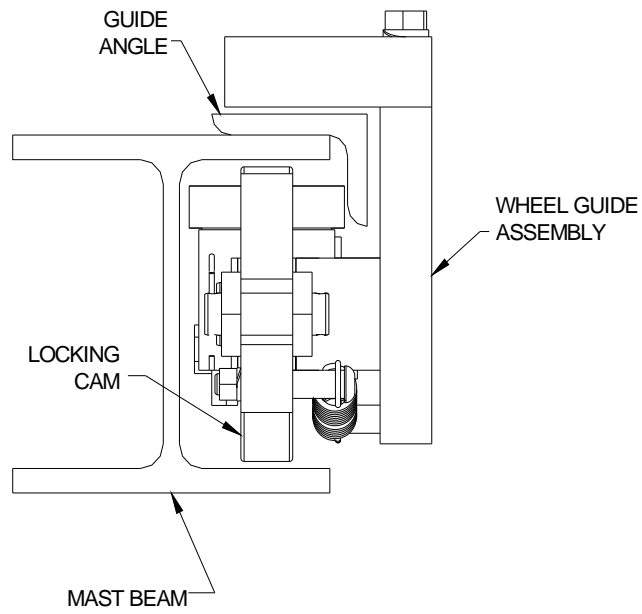

Figure 19a Upper Wheel Guide Assembly in Mast Beam (Top View)
1. Place the upper wheel guide assemblies in the beam as shown in **Figure 19a** by sliding them into the beam running space from below the guide angle near the bottom of the mast beam.